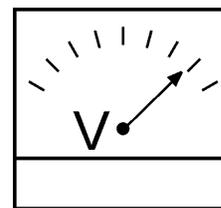

Figure 44. Voltmeter
4. The generator's AC-voltmeter (Figure 44) will display the generator's output in **VOLTS**. If the voltage is not within the specified tolerance.